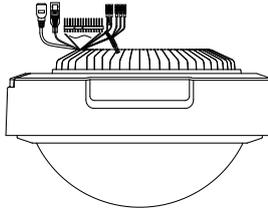

Figure 1-23 7+1 PanoVu Camera
1. Get the camera from the package, as shown in Figure 1-23.